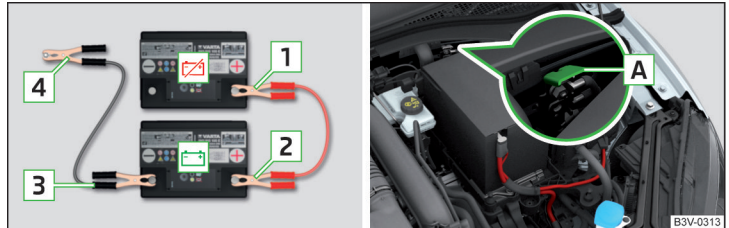

Fig. 336 Jump-starting: 🛑 - discharged battery, 🟩 - power-supplying battery/ground point of the engine for the START-STOP system
- For vehicles **with** the START-STOP system, secure the clamp **4** to the ground point of the engine **A** » Fig. 336.